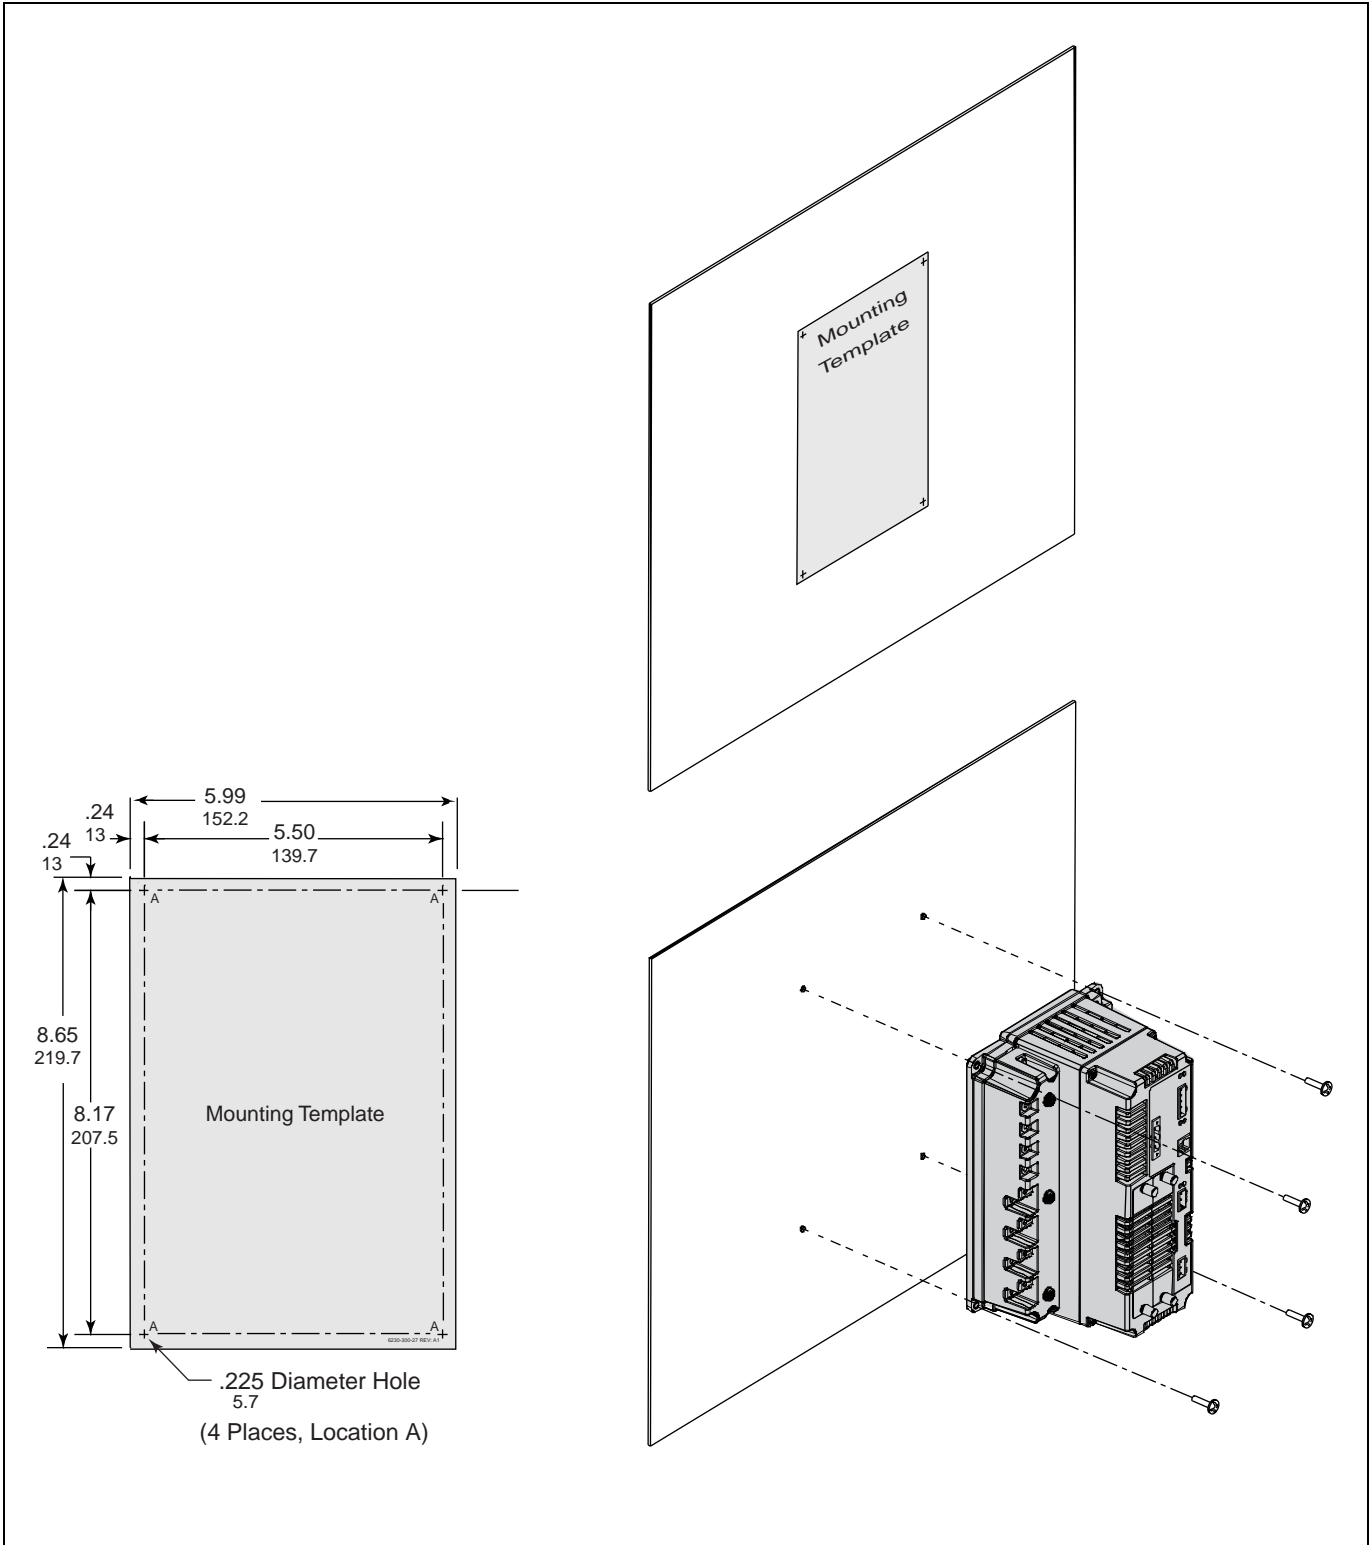

Figure 4–5 Circuit monitor mounting hole dimensions and locations
2. Tape the mounting template, included in the circuit monitor shipping carton, to the selected location. Refer to Figure 4–5 on page 18.
5. Referring to Figure 4–5 on page 18, secure the circuit monitor. Using the (M4 x 10 mm) thread-forming mounting screws provided in the circuit monitor hardware kit no. 63230-300-25, insert the screws through the